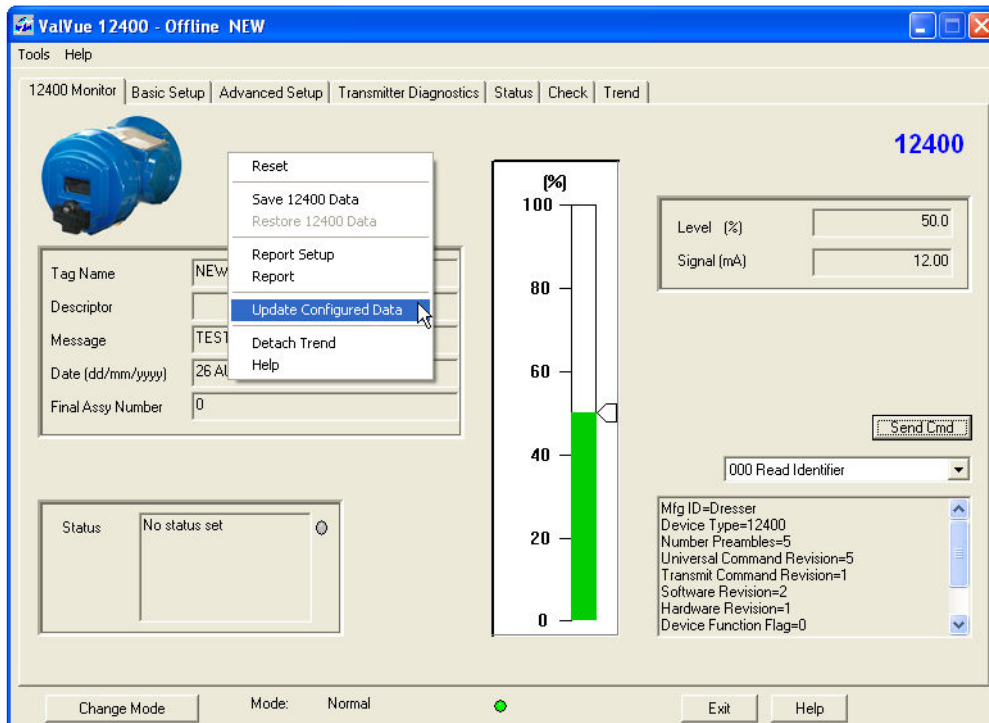

Figure 126 Update Configured Data Menu
2. Select **Update Configured Data** (Figure 126).